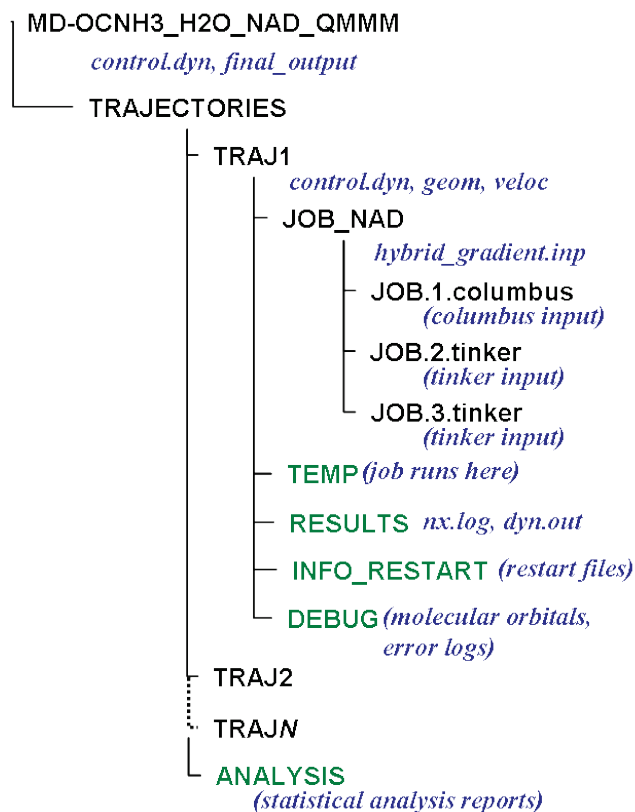

Fig. 12. Directory tree for a complete QM/MM surface hopping dynamics job with NEWTON-X. Compare to the conventional case in Fig. 7.
13. The trajectories have been created in the TRAJECTORIES directory from where you can run them as usual. The final directory structure is shown in Fig. 12, including the results directory.